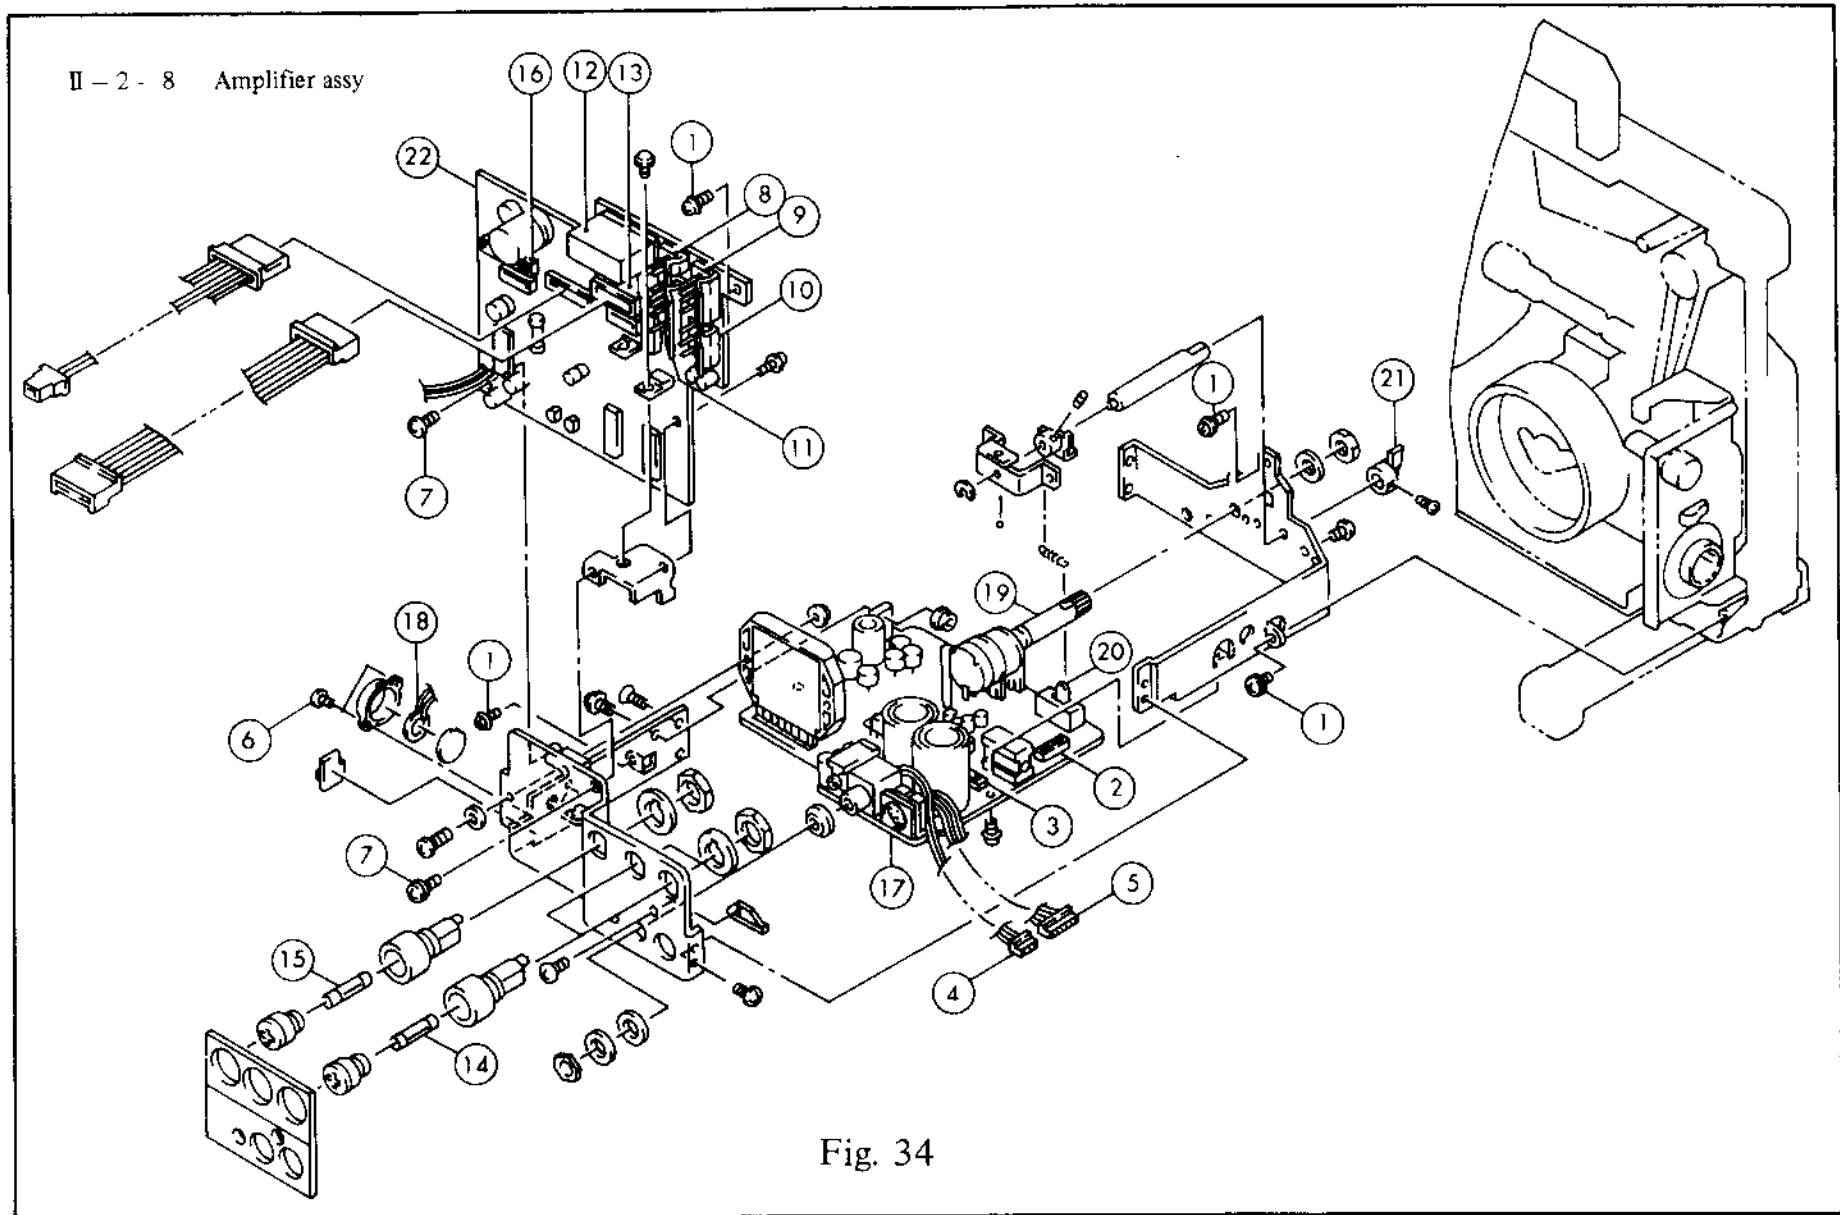

Fig. 34
3. Remove ① x 4 pcs. and take out the amplifier assy while disconnecting the connectors from ② and ③.
4. Disconnect the connectors from ④ and ⑤, and take out ㉒ by removing ⑥ x 2 pcs. and ⑦ x 2 pcs.
5. For further disassembly, refer to Fig. 34.